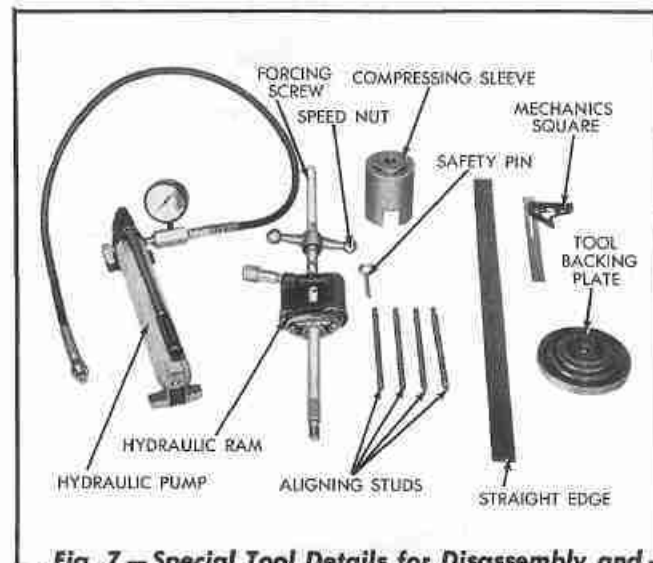

Fig. 7 — Special Tool Details for Disassembly and Assembly of Steering Clutch
2. Place the special tool backing plate (shown in Figs. 7 and 10) on a work bench and place the clutch throwout plate, with the pressure spring boss side up, in position on the tool backing plate.
- Insert four (4) aligning studs (shown in Figs. 7 and 11) through four (4) of the throwout plate spacers and screw the studs into the throwout plate.